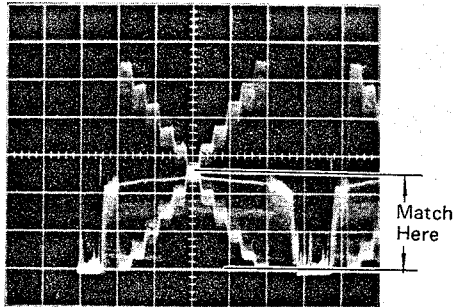

Fig. 6-4-32
- Connect the oscilloscope to TP307 (B) and TP309 (Y_L).
- Overlay the Y_L signal and the B signal on the oscilloscope, and adjust BLUE GAIN PRESET VR317 so that signals match in the lower half of the gray scale. (Fig.6-4-32)